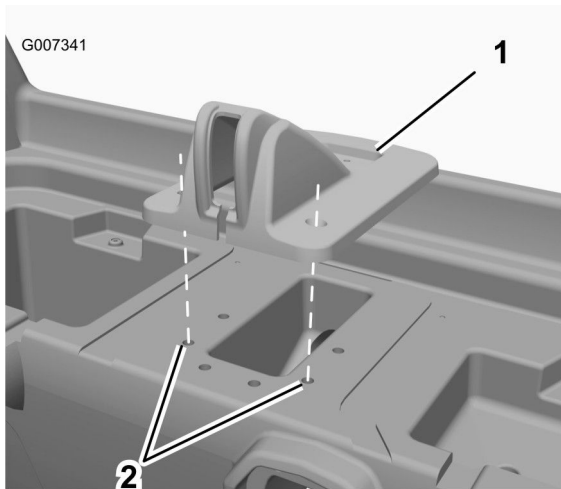

Figure 4
- G. Over lay the two front holes in the cover to align with the two wide set, forward holes previously drilled (Figure 4).